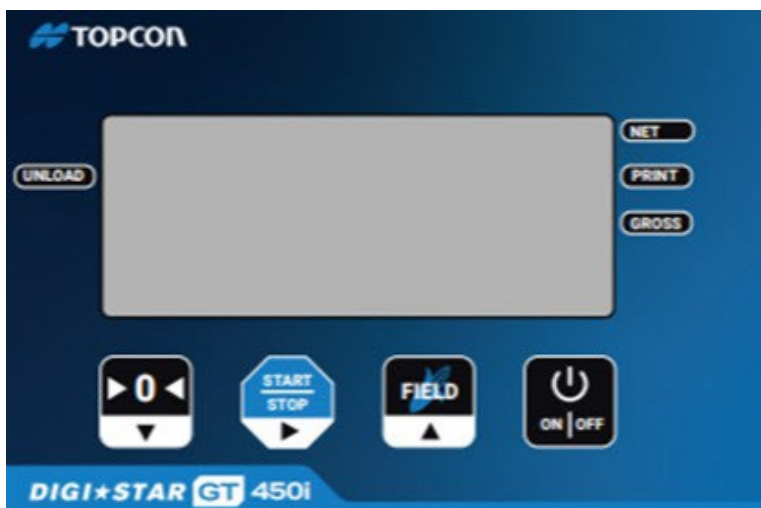

Figure 4-2: Enter New Setup Number
3. Press **FIELD** several times to increment digit to the proper value (Figure 4-2).